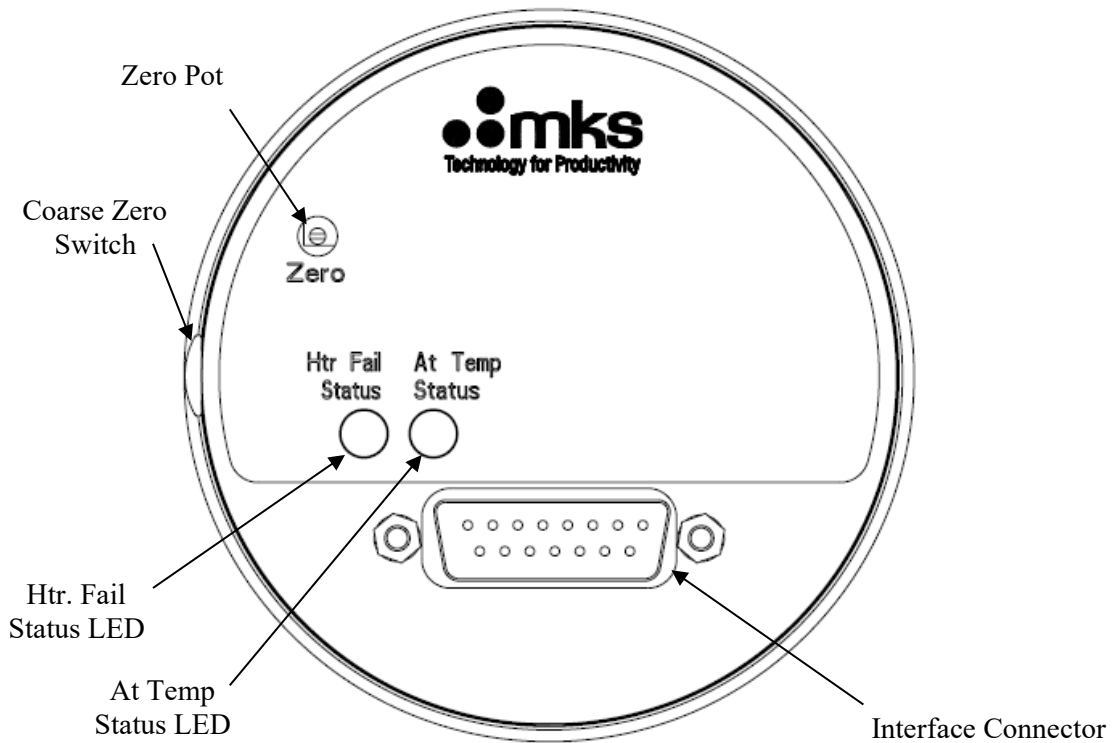
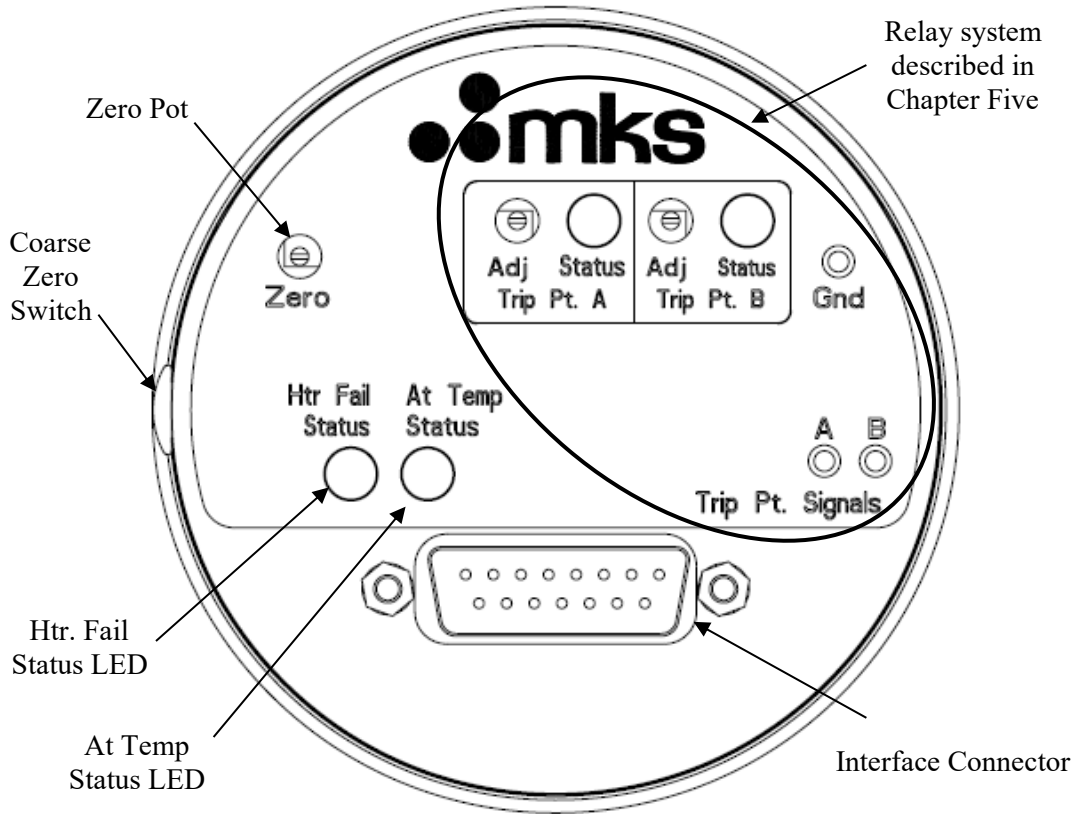

Figure 2: Top View of the Type 631F Transducer Without Optional Relay System
Figure 3: Top View of the Type 631F Transducer With Optional Relay System
The 631F transducer is powered by a single ± 15 VDC power supply for both the electronics and heater. The cable connection to the 631F transducer via the Interface connector is shown in Figure 2: Top View of the Type 631F Transducer, page 30. Refer to Table 6: Pinout of the Interface Connector (J1), page 33, for the complete list of pin assignments for the Interface connector.
The 631F transducer has two adjustments for zero, a potentiometer and a coarse zero switch. The location of both are the same for the 631F with and without the trip point relay system and are shown in Figure 2: Top View of the Type 631F Transducer Without Optional Relay System and Figure 3: Top View of the Type 631F Transducer With Optional Relay System, pages 30 and 31, respectively.
The top of the 631F transducer without the optional relay system has two LEDs to indicate the status of the sensor heater. At power up, the “At Temp Status” LED will be yellow. Once the sensor temperature reaches the normal operating temperature, this LED will turn green. The “Htr Fail Status” LED is off unless the heater unit fails. Should the heater unit fail, “Htr Fail Status” LED will illuminate red and the “At Temp Status” LED will turn yellow. A “heater alarm relay” will become de-energized and change state providing a remote indication of a heater circuit failure using dedicated pins in the interface connector. Refer to Figure 2: Top View of the Type 631F Transducer Without Optional Relay System, page 30, to identify the location of the “At Temp Status” and “Htr Fail Status” LEDs. Refer to Heater Status LEDs and Heater Alarm Relay, page 40, for a detailed discussion of the operation of the heating system LEDs and relays.
The transducer with the optional trip point relay system has the same functionality as the transducer without the relay system described above. The relay system brings an additional two LEDs, two adjustment POTs and three test plugs to the top of the transducer. (Refer to Figure 3: Top View of the Type 631F Transducer With Optional Relay System, below, showing the
The Interface connector (J1) is a 15-pin male type D-subminiature connector. Refer to Figure 2: Top View of the Type 631F Transducer, page 30, for the location of the Interface connector for the 631F without the optional relay system. Refer to Figure 3: Top View of the Type 631F Transducer With Optional Relay System, page 31, for the location of the Interface connector for the 631F without the optional relay system. It contains the pins to connect the 631F unit to a power supply or power supply/readout. Table 6 specifies the pinout of the Interface connector.
4. Adjust the ZERO potentiometer with a small screwdriver until the readout displays zero (0.000). Typically, the ZERO potentiometer provides ample control under normal conditions. However, if the ZERO potentiometer fails to provide sufficient adjustment, additional zero range capability is available with the COARSE ZERO switch, located on the side of the unit (refer to Figure 2: Top View of the Type 631F Transducer, page 30, or Figure 3: Top View of the Type 631F Transducer With Optional Relay System, page 31, for location of the ZERO potentiometer and coarse zero switch.) Refer to *How To Adjust the Coarse Zero Switch*, page 39, for more information.